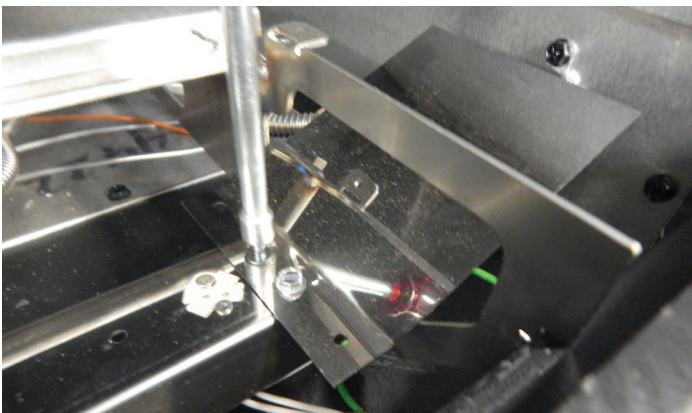

Figure 10
14. Attach two End Deflectors (one at each end of the Light bracket assembly) with (2) # 8 X 1/4" Screws each. **See Figure 10.**